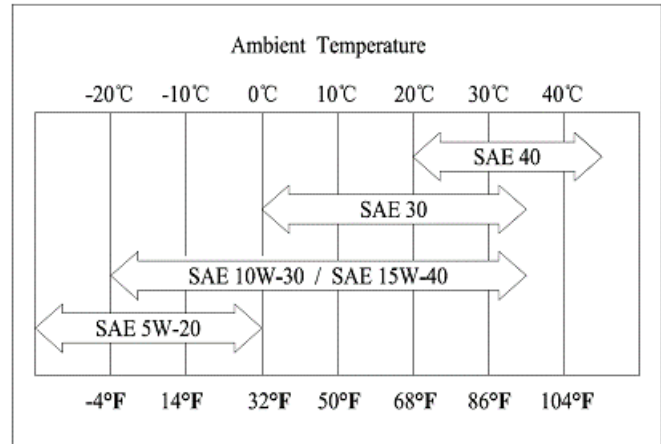

Figure 3-2: Recommended Oil Viscosity
6. See Figure 3-2. Fill the engine with 1.8L (60.86 oz.) of recommended oil.